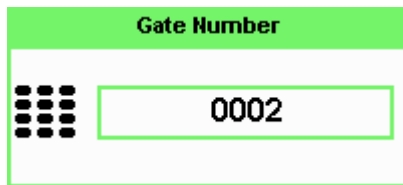

Figure 2-52 Gating number pop-up
- 8 Press  to display the **Gate Number** pop-up, see Figure 2-52, and use the numeric keypad to enter the required value in the **Gate Number** pop-up window.